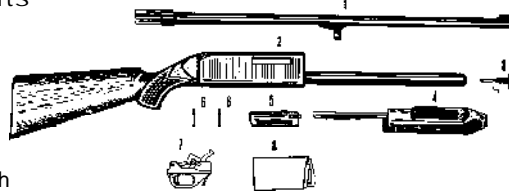

Fig. 5 - IZH81M or KM Version with Folding Stock
**7) FIG 5:** With the forearm / slide in the rearward position, push the magazine release lever forward to permit insertion of the magazine. A pendulum motion of the magazine during insertion insures that the lips of the magazine body will be to securely engaged.